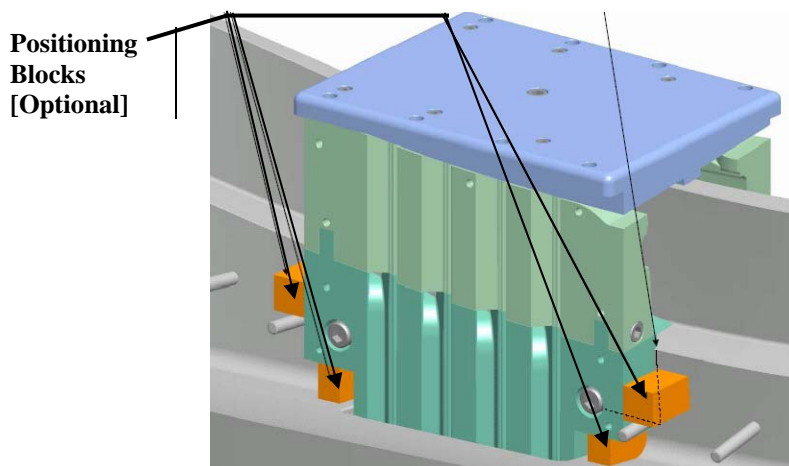

Figure 14- Install Lead Positioning Blocks
- Glue small positioning blocks (G-10 or phenolic) to the tee as they are pressed firmly against the sides of the lower winding blocks using the same glue as was used for the cladding, only be liberal with the amount so that the blocks will stay put until knocked or chipped off before the bagging operation. [Figure 14- Install Lead Positioning Blocks] **Optional**